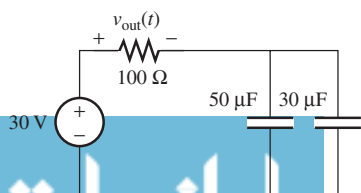

FIGURE P5.30 Circuit for Problem 5.30.
- 5.30 (A) Find the expression of $v_{out}(t)$ in Figure P5.30.